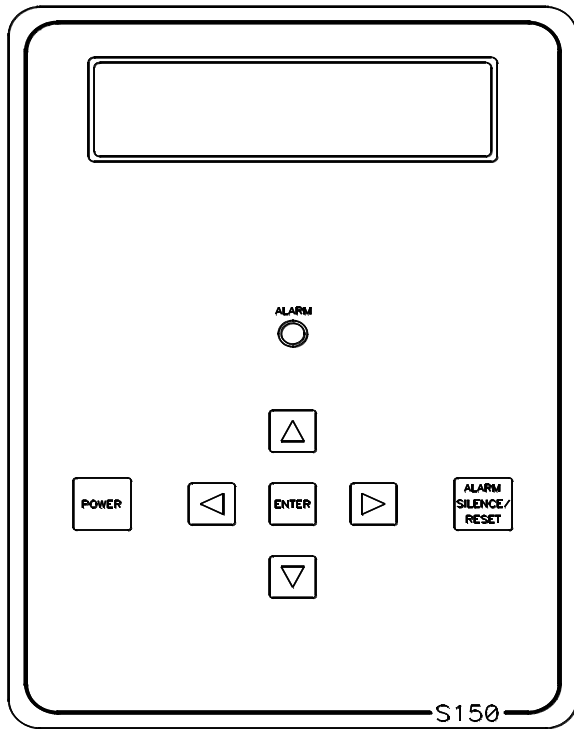

Figure 1
1. Refer to Figure 1 for the location of the keys used to display or change the Setpoints and Electrical Schematic for the location of the write protect jumper, J3. For the unit to be able to accept a change in a Setpoint, the shorting jumper must be in the off position (center and left pins).